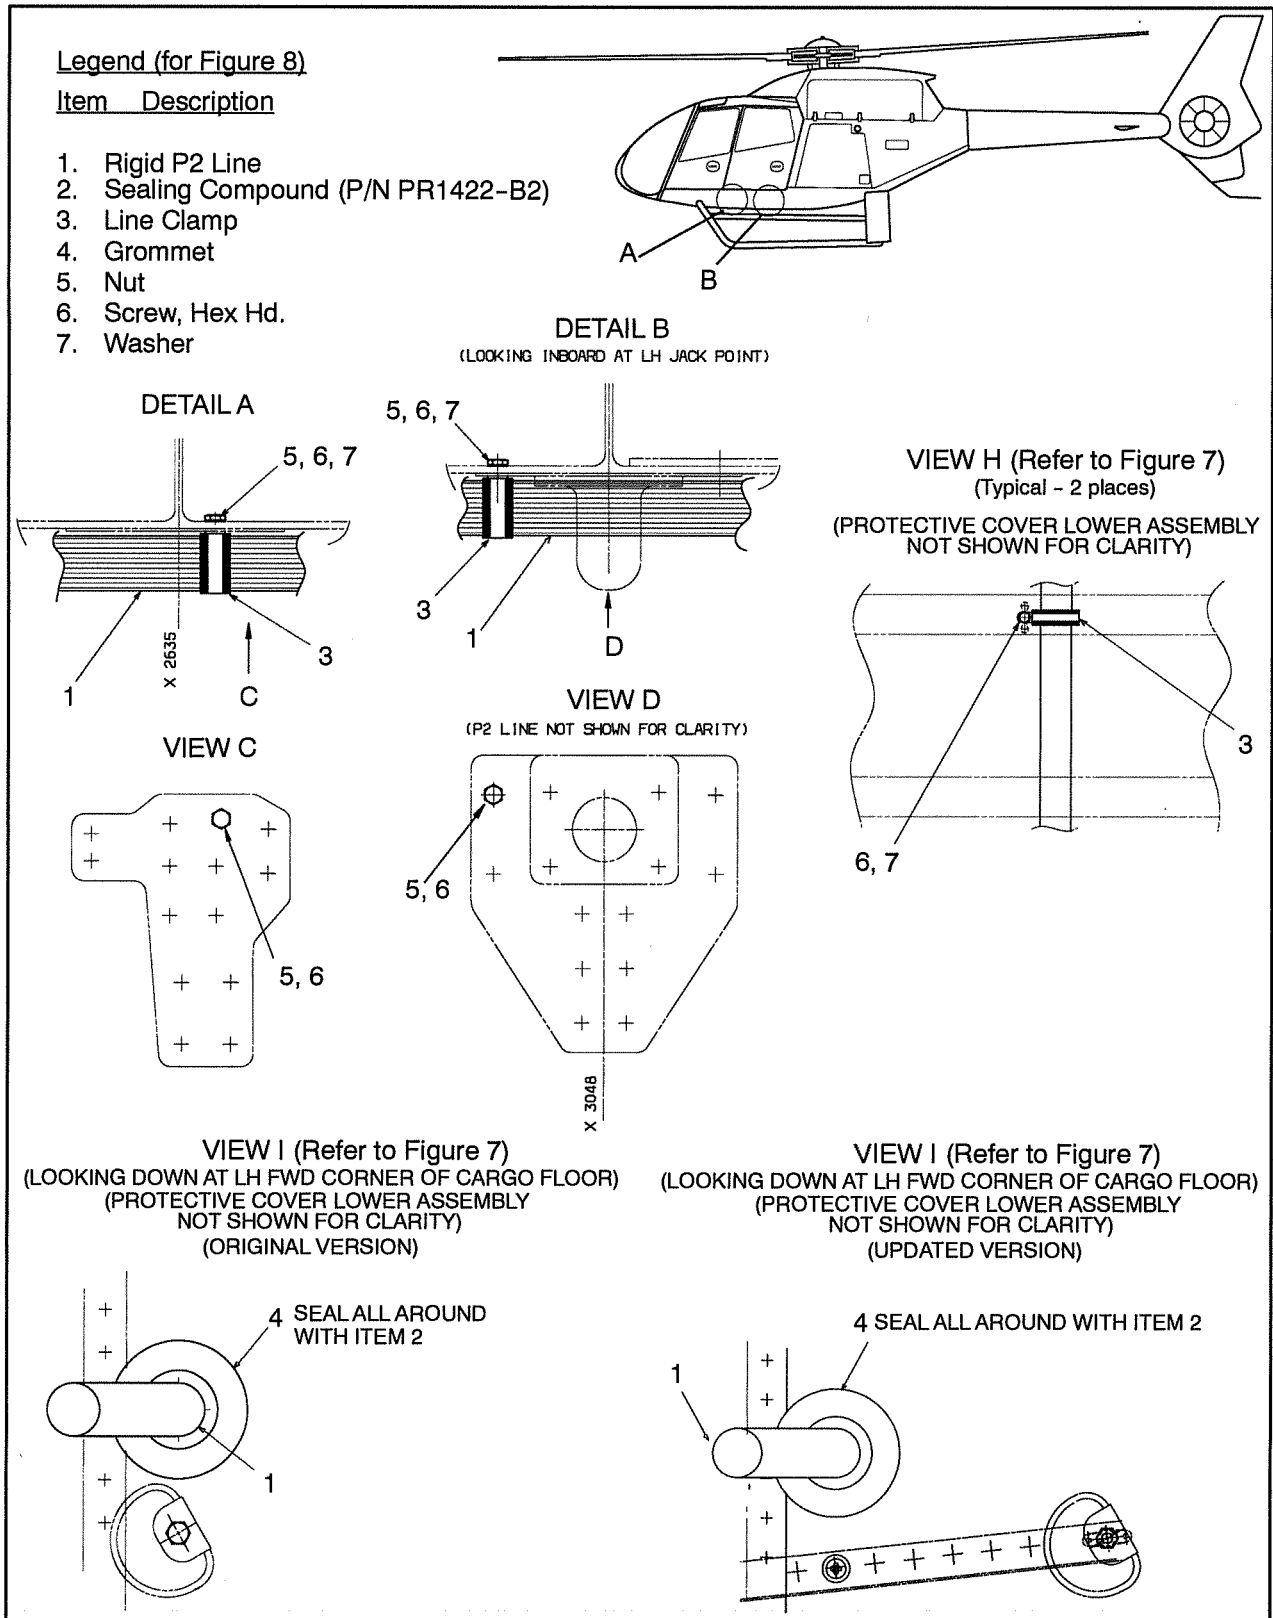

Figure 8 Installation Details
- d) Secure rigid P2 line (1) to cargo compartment wall using line clamp (3), washer (7) and screw (6). Refer to Figure 8.
- e) Secure rigid P2 line under cabin floor from STN's 2635 and 3048 using screws (6), nuts (5), and washers (7) from line clamps (3). Refer to DETAIL A and DETAIL B in Figure 8.